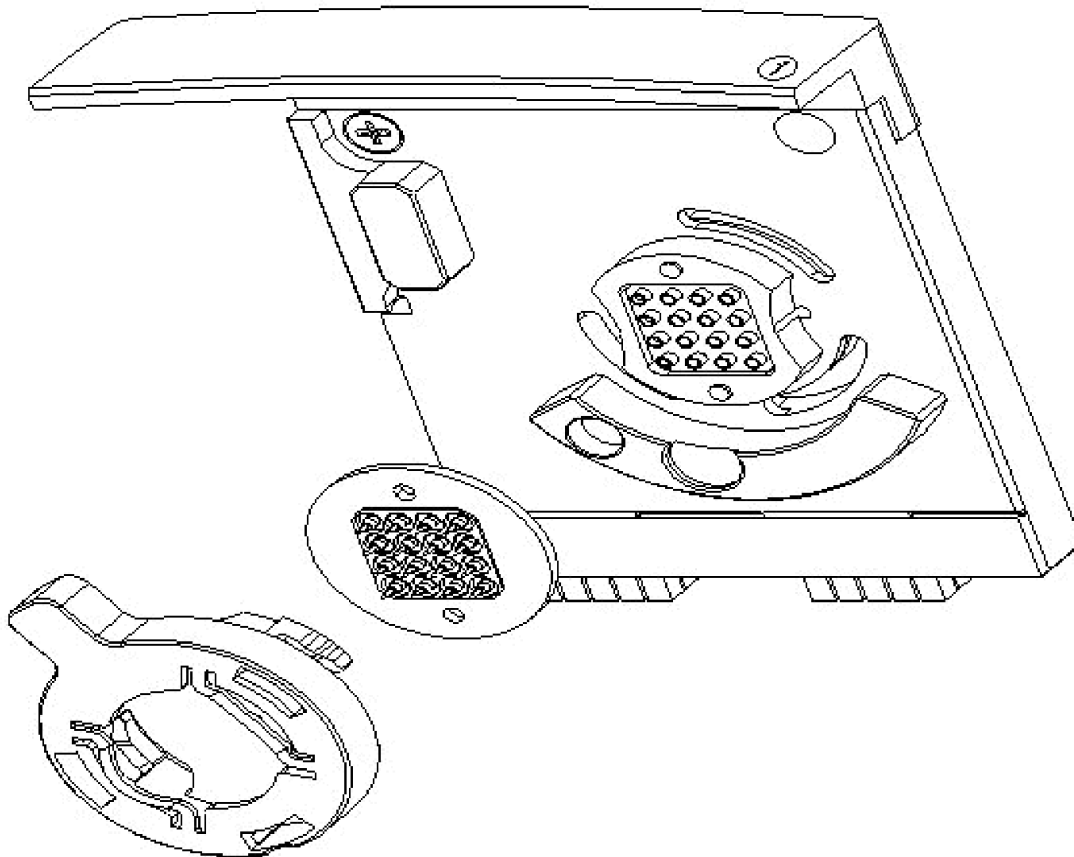

Figure 3 Bayonet cover and pin set
- 5 Remove the cover of the bayonet socket by gently pulling the plastic lever. The pin set may stick to the electrode base. Remove it by carefully pulling it off, see Figure 3 on page 158.
- 10 Place the pin set on the cartridge base and the bayonet cover over the pin set, see Figure 3 on page 158.